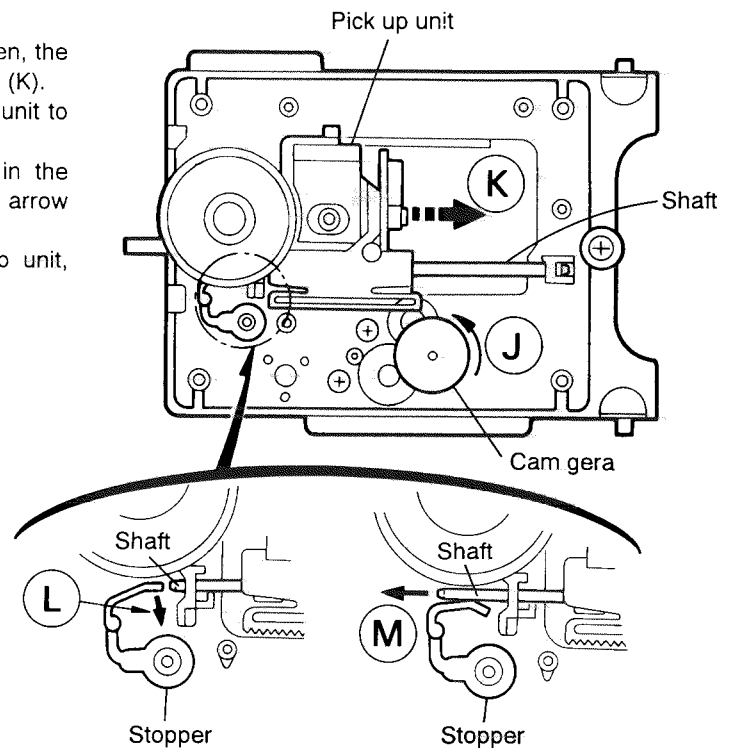

Fig. 5-22
(See Fig. 5-22)
1. Move the cam gear in the arrow direction (J). Then, the CD pickup unit will be moved in the arrow direction (K).
2. According to the above step, shift the CD pickup unit to the center position (Fig. 5-22).
3. While pressing the stopper retaining the shaft in the arrow direction (L), pull out the shaft in the arrow direction (M) (See Fig. 5-22).